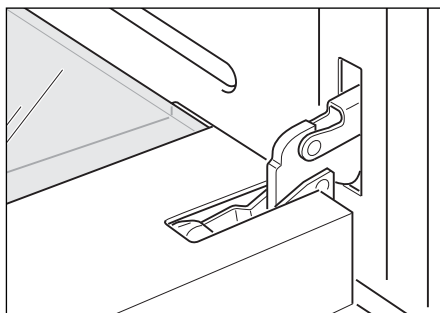

Fig. 44a
- Fully open the oven door (Fig. 44a).
- 1 Make sure the door is locked open (see Figs 44a - 44c).